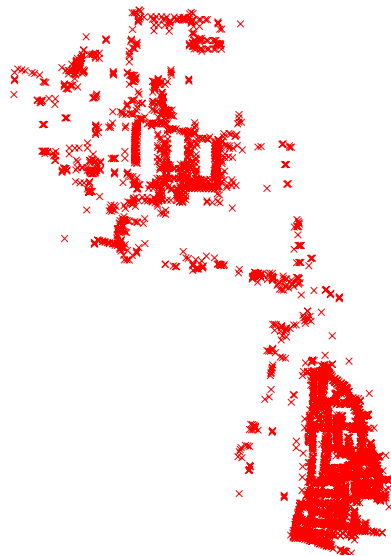

Figure 2-35 The Ground Control Points displayed in the drawing window
- 6. Choose the **OK** button; the **Import ASCII Points** dialog box is closed and the survey points or the Ground Control Points are displayed in the drawing window, as shown in Figure 2-35.